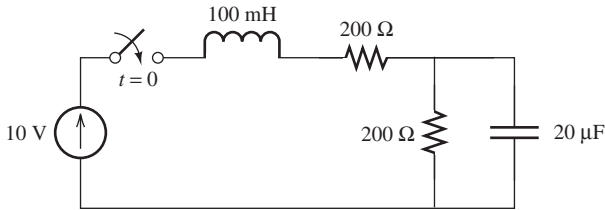

FIGURE P5.36 Circuit for Problem 5.36.
5.36 (A) Consider the circuit in Figure P5.36. The switch closes at $t = 0$ s. Sketch the current flow through the capacitor.